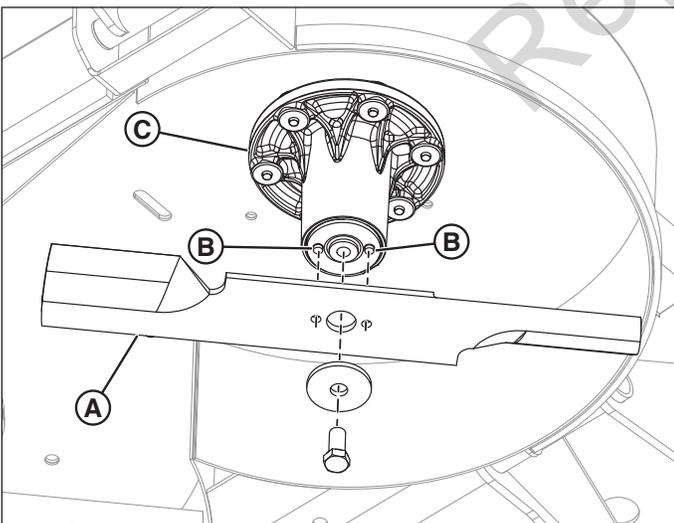

Figure 5. Blade Alignment Pins
3. Align the two holes in the blade (A, Figure 5) with the two (2) alignment pins (B) on the spindles (C).